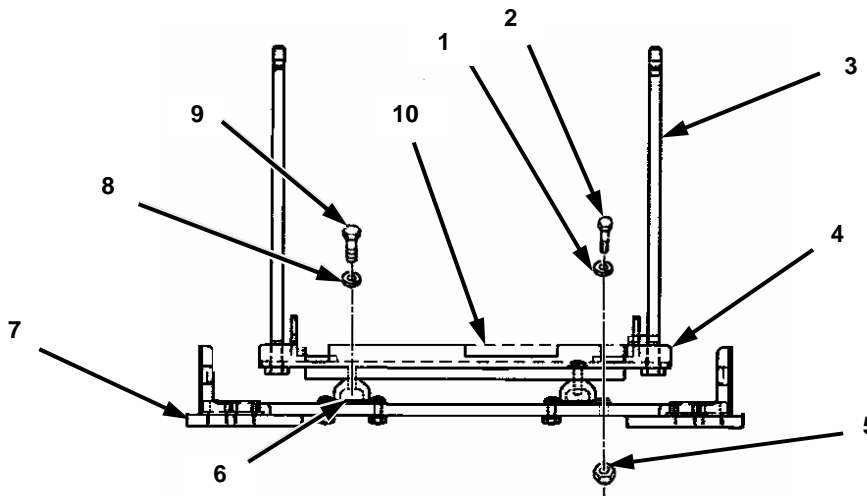

**Figure 2-3. Drilling, Tapping and Installing Steel Insert in Fourth Mounting Hole.**
Step 5 below applies to Figure 2-3.
5. Using a 1/2 inch diameter drill bit and a drill stop gauge set, drill a 1/2 inch (12.7 mm) hole, 1/2 inch (12.7 mm) deep into the fuel tank armor plate (1) at location (2) drilled in step b.3. above. Tap hole (2) using a bottom end tap set to 9/16-12 UNC-2-A. Install steel insert (MS51831-204) into threaded hole (2).